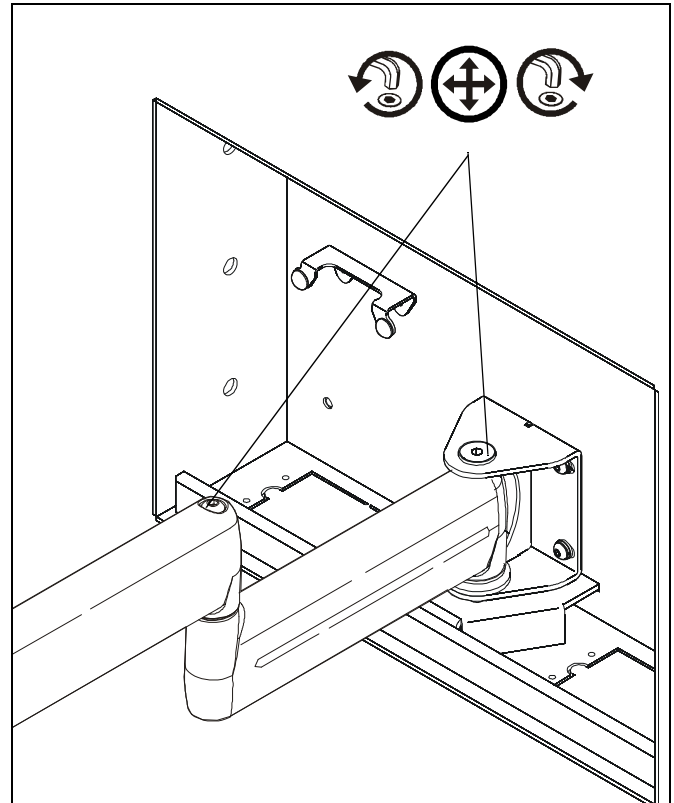

Figure 12
1. Using 3/16" hex key (N), slightly loosen or tighten the adjustment screw(s) as necessary. (See Figure 12)